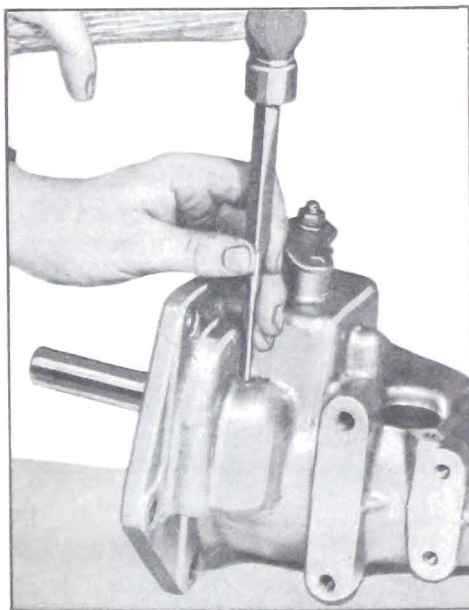

Figure 4-29—Removing Reverse Idler Shaft Lock Pin
1. With case extension removed from the transmission, drive the reverse idler shaft lock pin into the boss until it falls into the clearance hole in the shaft. See Figure 4-29.